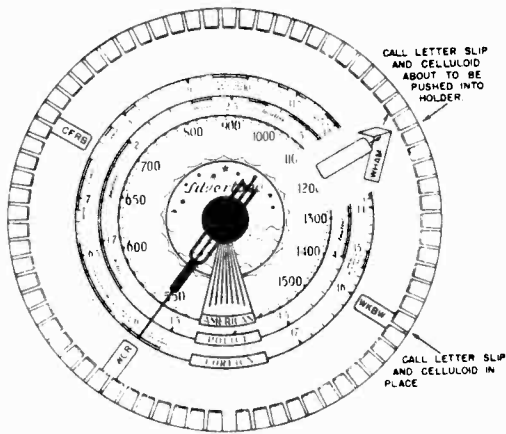

FIG. 3
7. A small envelope containing celluloid tabs is furnished in the same large envelope with the instructions. Select the cut out slip bearing the call letters of your chosen station. Bend the end of the slip, opposite the call letters, over one of the celluloid tabs so that the call letters will be under the celluloid. See Fig. 3. Then place the tab and call letter slip under the holder at the outside edge of the dial at a point opposite the end of